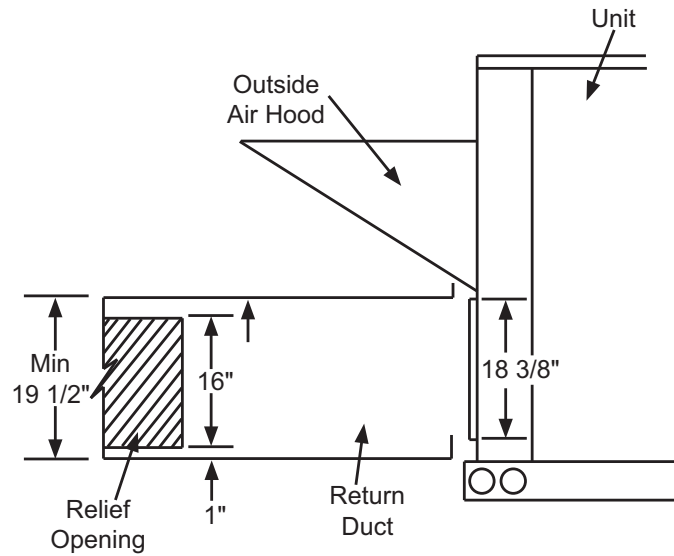

Fig. 18 — Relief Damper
1. Install the field provided horizontal ductwork onto the unit. Duct height must be at least 19-1/2 in. high, however the duct can be no taller than the top of the relief opening in the bottom panel, or airflow into the outside air hood will be restricted. (See Fig. 18.)
2. Cut a 16 in. x 36 in. opening in the return duct for the relief damper. (See Fig. 18.)